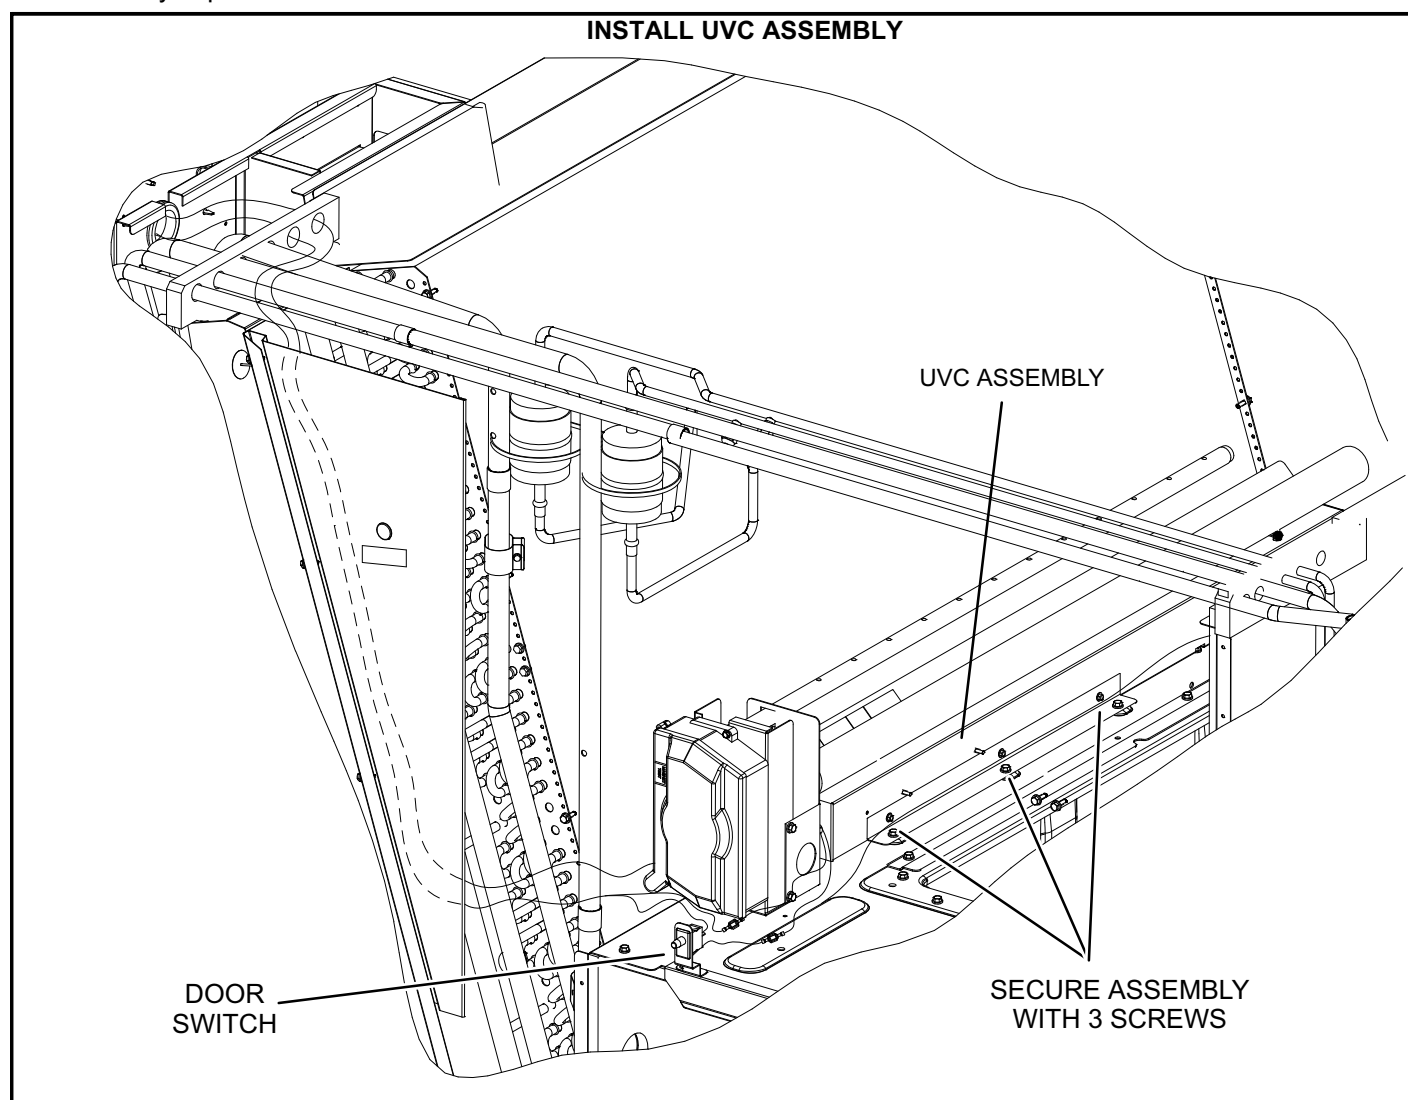
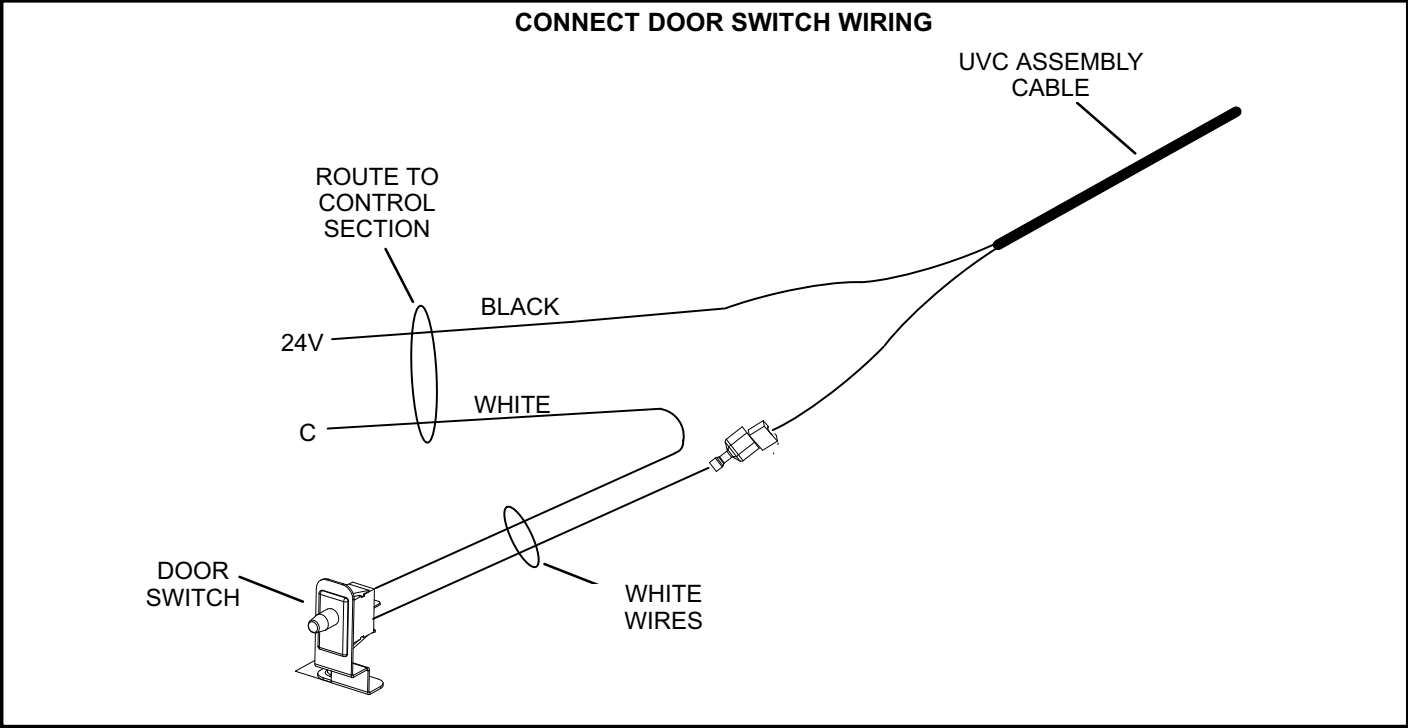

FIGURE 2
FIGURE 3
- 3- Carefully place the UVC assembly on the blower deck. Line up the mounting holes on the UVC assembly with the mounting holes on the blower deck. See figure 2. Use the #10 screws provided to secure the UVC assembly in place.
Install bracket and switch on front of blower deck as shown in figure 2. Wire as shown in figure 3.